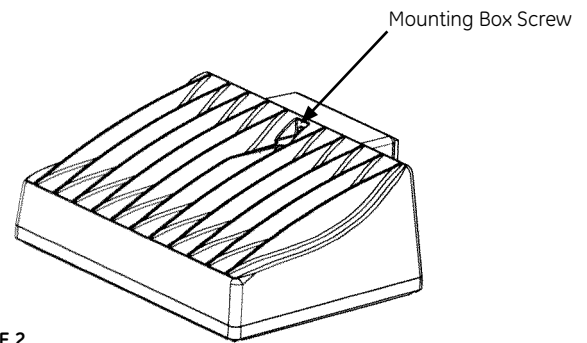

FIGURE 2
- Remove the back Mounting Box by loosening the single screw on the front of the unit and sliding the Mounting Box downward off of the mounting hook (see *Figure 2*).